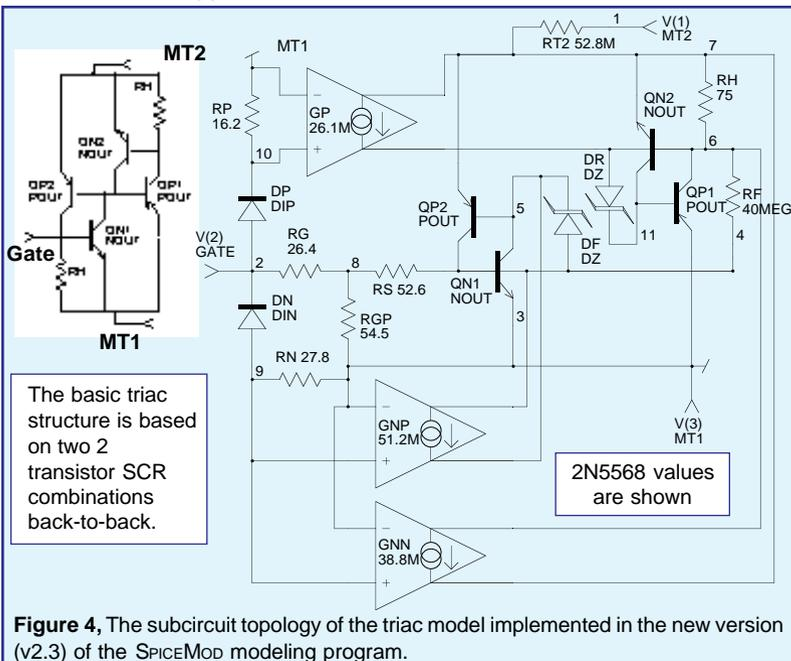

Figure 4, The subcircuit topology of the triac model implemented in the new version (v2.3) of the SPICEMOD modeling program.
A triac is a bi-lateral switch that can be triggered into conduction regardless of its polarity. It is modeled by using two NPN/PNP transistor pairs connected back-to-back as shown on the left of Figure 4. The base of each transistor is connected to the collector of the other. This produces positive feedback, resulting in the required switching action. At MT2, the emitter metallization overlaps the base of the NPN transistor. This forms a lateral resistor in the base (P) region and is shown as RH in the model. RH determines the holding current of the triac. A similar resistor exists at MT1. These resistors hold the triac off unless triggered by the gate or the holding current from a previous "on" condition.
Although this configuration has the basic triggering function of the triac, it must be enhanced to emulate other important parameters such as off state leakage, breakover voltage and current, and voltage and current characteristics in all four modes of operation. Figure 4 shows the full triac subcircuit. Resistors and zener diodes are used to simulate the breakdown voltages and leakage currents. Dependent sources are used to emulate the various triggering modes and to allow a wider range of trigger data to be entered.